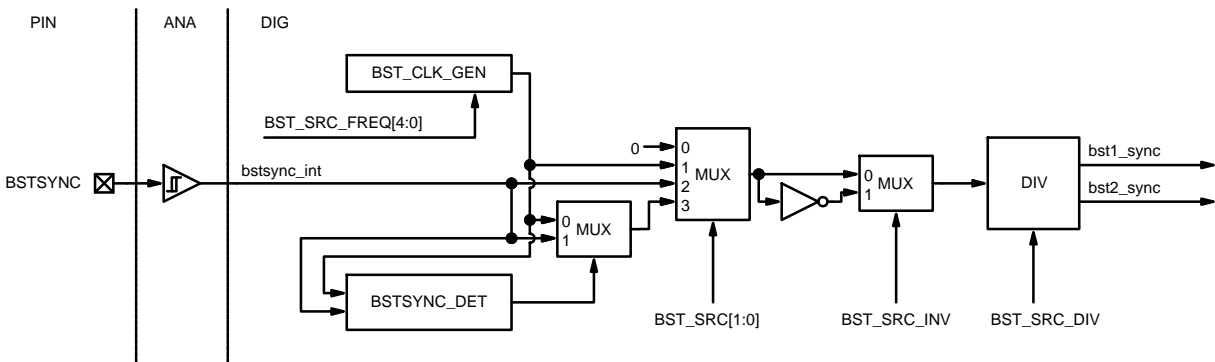
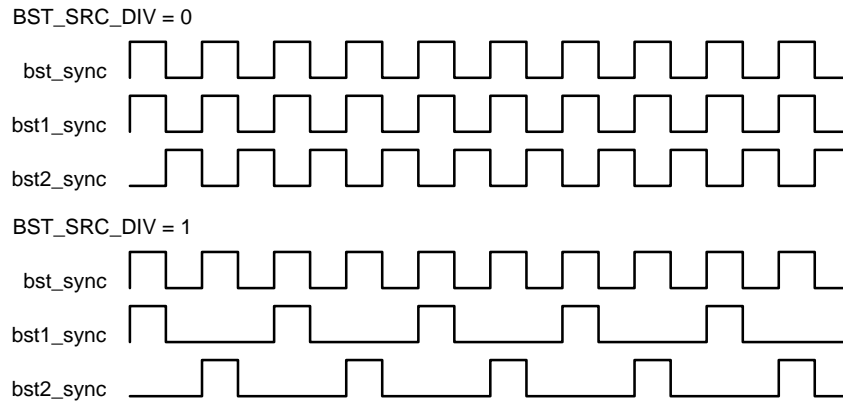

Figure 20. NCV78964 Booster Frequency Generation Block
Figure 21. PWM Generator Clock Divider
When register BST_SRC = 3, the automatic booster PWM clock selection is activated. Switch sequence to internal clock is initialized when no rising edge on external source (bstsync_int on Figure 20) is detected within 3 consecutive rising edges of internal bst_sync clock. For this purpose, internal clock should be set to similar frequency as external source to ensure smooth transitions. Switch sequence to external clock is initialized when rising edge on external source (bstsync_int) is detected.
- To synchronize the MOSFET gate PWM clock and needed phase shifts, the boosters must use the external clock generation (BSTSYNC), generated by the board MCU or external logic, according to the user-defined control strategy. The generic number of lines needed is equivalent to the number of devices. When two chips are combined, the slave device shall have BST_SRC_INV bit at '1' (clock polarity internal inversion active), whereas the master device will keep the BST_SRC_INV bit at '0' (= no inversion, default). On top of that, to get four phases with phase shift, the BST_SRC_DIV bit has to be at '1', meaning that gate clock is divided by two (please see Figure 20 and Figure 21 for more details).